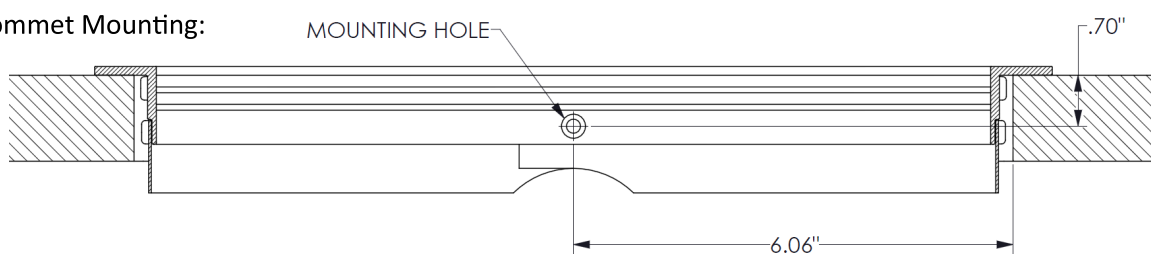

Fig. 2
2. Insert Grommet into surface cutout and secure to table with 2 - #8 flat head screws (not provided) through mounting holes in side of Grommet, see Fig. 2. Ensure Grommet is centered in cutout and flat to work surface.